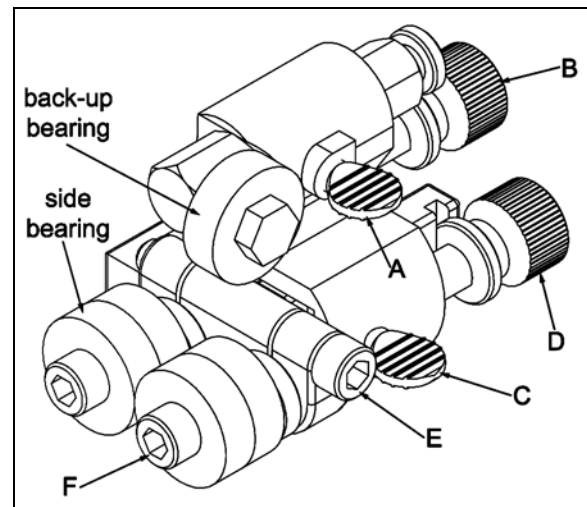

Figure 3
Referring to Figure 3:
2. Adjust the *back-up bearing* so that it is 0.003" away from the back of the blade, about the thickness of a piece of paper. To make this adjustment loosen *thumb screw* (A, Fig. 3) and turn the *adjusting screw* (B, Fig. 3) until the adjustment is correct. Tighten *thumb screw* (A, Fig. 3).
3. Loosen the *thumb screw* (C, Fig. 3) and turn the *adjusting screw* (D, Fig. 3) until the bearing guides rest just behind the gullet of the blade teeth.
4. Loosen the *socket head cap screw* (E, Fig. 3) and turn the *screw* (F, Fig. 3) clockwise or counter-clockwise until the bearing is 0.003" away from the side of the bearing, about the thickness of a piece of paper.
6. Tighten *socket head cap screw* (E, Fig. 3). Check to make sure the adjustments have not changed and the bearing guides do not pinch the blade.